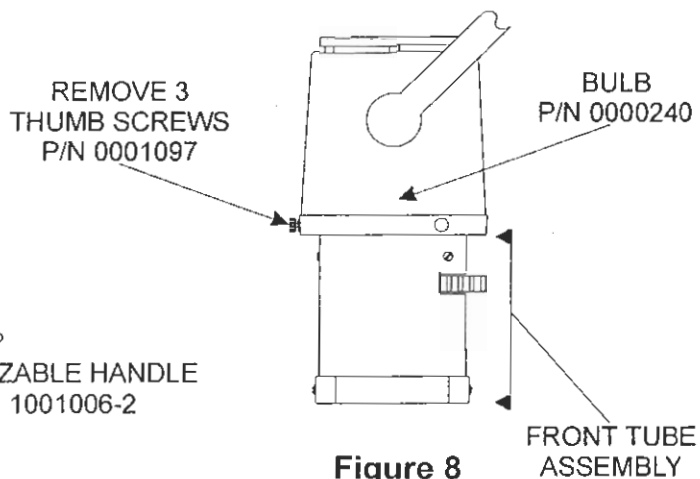

Figure 8
2. While securely holding the Front Tube Assembly, remove the three Thumb Screws from the exterior of the light (see Figure 8).